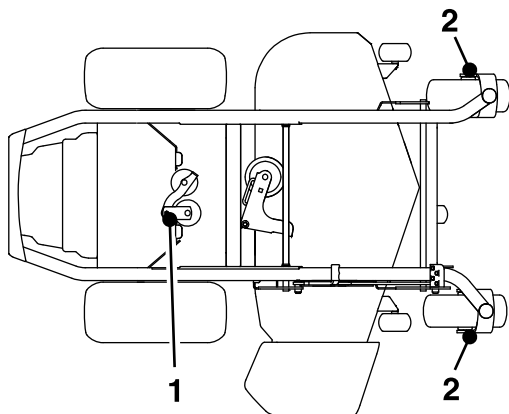

Figure 39
4. Grease the pump idler-pulley pivot with 1 or 2 pumps of grease (Figure 39).
5. Grease the front caster axles (Figure 39).